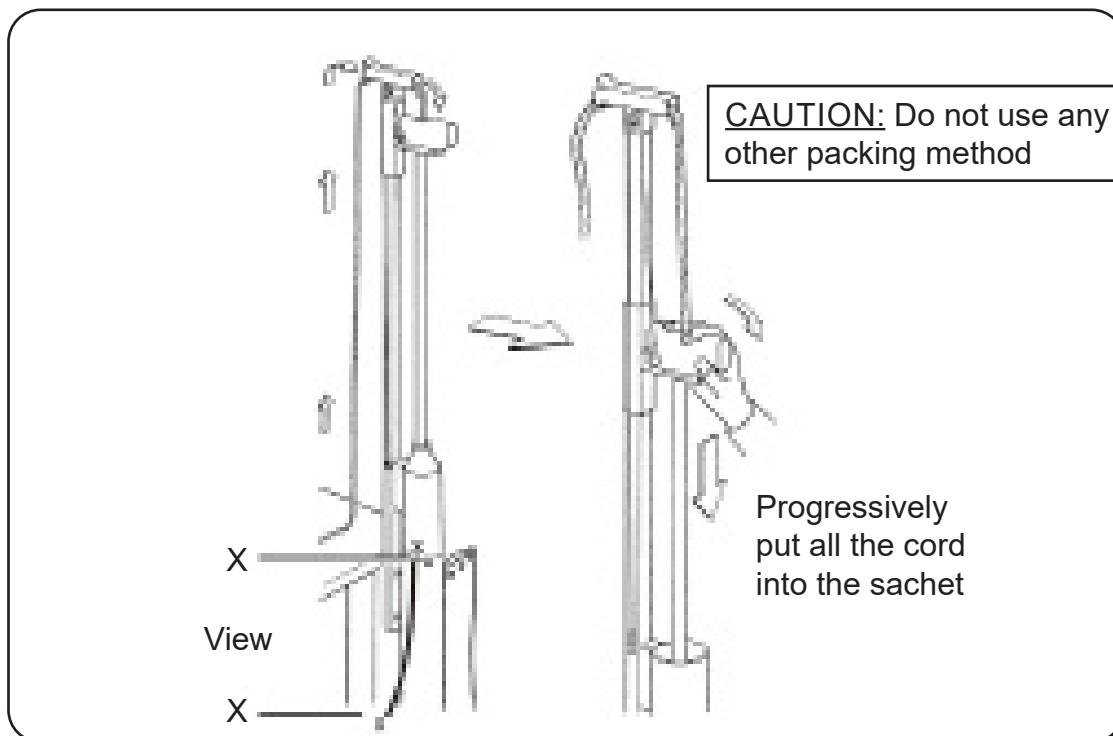

FIGURE 812
- 2.17 If the painter line has been removed from its sachet, it must be repacked as follows. Refer to FIGURES 812 and 813:
Refer to FIGURE 812 view X-X.